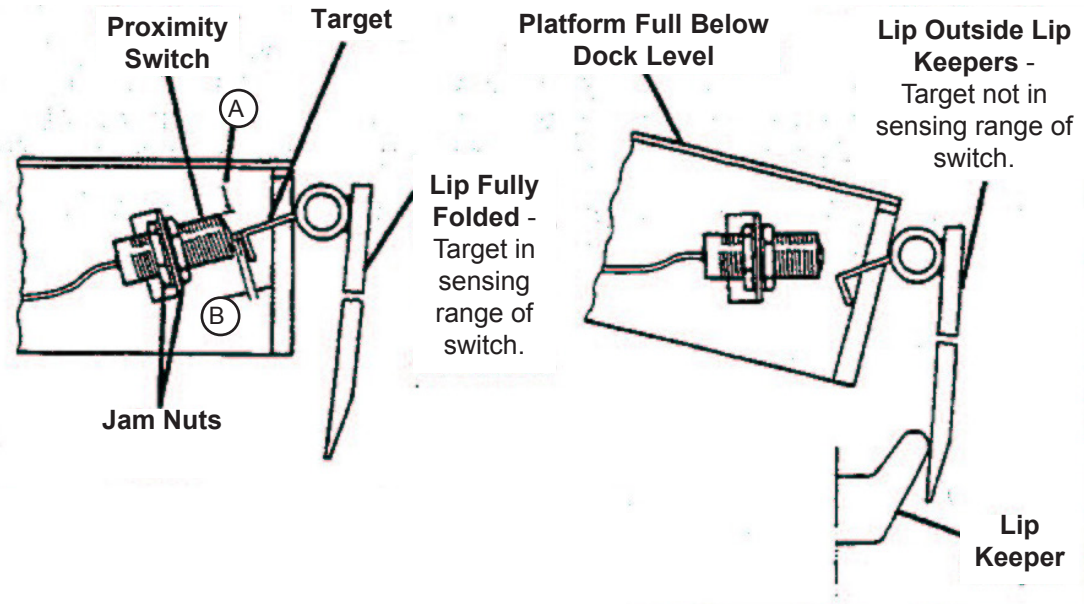

Figure 29
3. Press the RAISE button. The dock leveler should NOT raise. If the leveler did not raise, proceed with step 4. If the leveler did raise, decrease dimension (A) or (B), so that the target is in the sensing range of the switch. Typical factory settings for (A) and (B) are approximately 3/4" and 1/8" respectively. Make adjustments at switch (dimension B) and/or target (dimension A) until leveler does not raise when the vehicle restraint is not engaged on transport vehicle RIG bar. See Figure 29.
6. Press the RELEASE button. The vehicle restraint should NOT disengage from the transport vehicle RIG bar or test fixture. If the vehicle restraint did NOT engage, proceed with step 7. If the vehicle restraint DID disengage, move the switch farther from the target or bend the target so that the target is not in the sensing range of the switch. Make adjustments at switch and/or target until vehicle restraint does not disengage transport vehicle. See Figure 29.